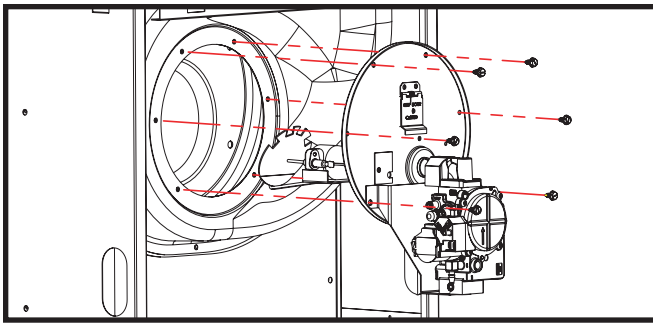

Figure 3. MG1E Burner Assembly Removal
9. Remove the burner assembly. Figure 3.